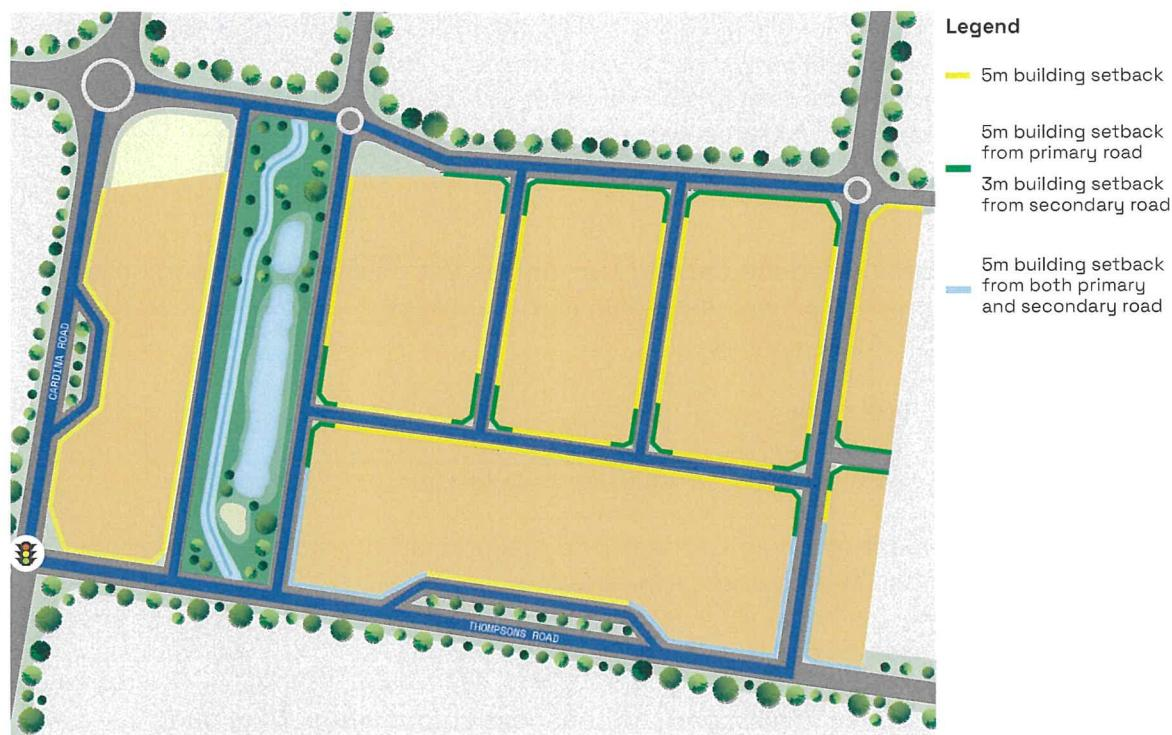

Figure 3: Building Setback Guide
- A minimum building setback of five metres to the primary street frontage from the allotment boundary must be provided as per Figure 3: Building Setback Guide;
- No building setback is required at the side, unless on a corner allotment as per Figure 3: Building Setback Guide.
- No building setback is required at the rear, unless the building is backing onto open space reserves in which case a five metre setback must be provided as per Figure 3: Building Setback Guide.